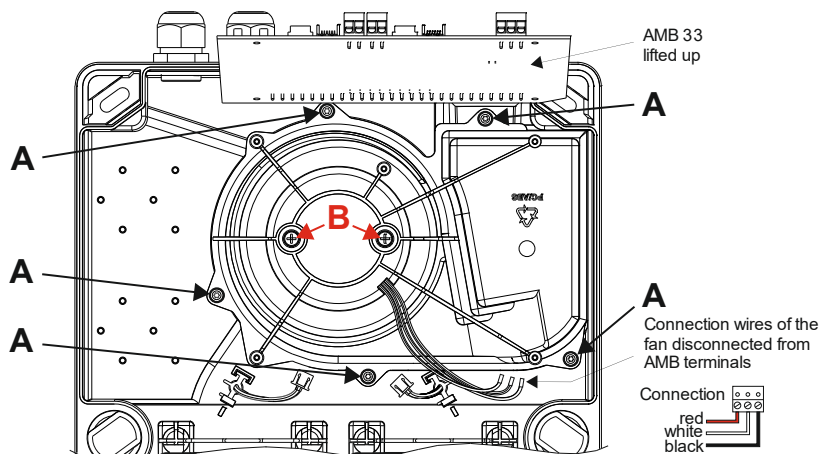

Fig. 50 Removing the aspirating fan unit
The AMB 33 main board has to be removed before the AFU 35 aspirating fan unit can be replaced. To do so, carefully unplug all the internal cable connections. Remove the fan's three connection wires from the terminals. The plug-in terminals 1 to 26 do not necessarily have to be unplugged. After removing the fastening screws on the AMB 33 using a **Torx T10 screwdriver**, the AMB 33 can be lifted up toward the cable infeeds and the fastening screws on the aspirating fan unit are then accessible. To dismantle the aspirating fan unit, remove the five screws **A** using a **Torx T15 screwdriver** (see Fig. 50).
- When connecting the new aspirating fan unit, take note of the wire colour coding (see Fig. 50).